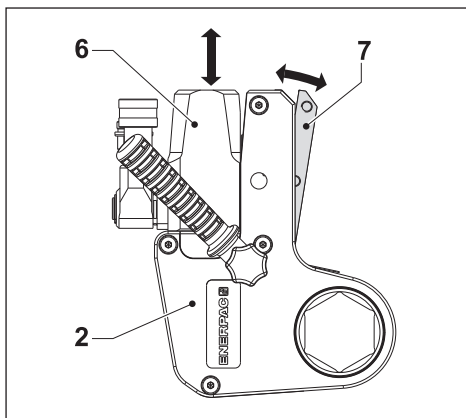

Fig. 4
3.3.1 To Remove the Cassette (Fig. 4 and 5)
3.3.2 To Attach the Cassette (Fig. 4 and 5)
- Pull the release lever (7) outwards.
- Be sure the retract link (12) aligns with the slot (14) in the ratchet lever. Rotate the piston rod if necessary.
- Slide the drive unit onto the cassette and push the spigot (13) through the opening in the drive unit locating plate (15).
- Push the release lever (7) back into the cassette (2). Be sure the ball detent clicks into place. Check that cassette release lever is fully closed.